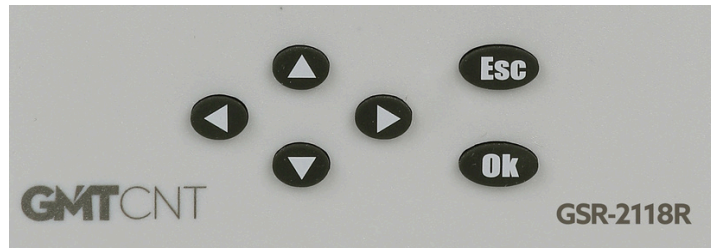

Figure 16: Lower Six-Key Pad
- The lower-6 keypad is illustrated in Figure 16. It serves general routing and transition functions.